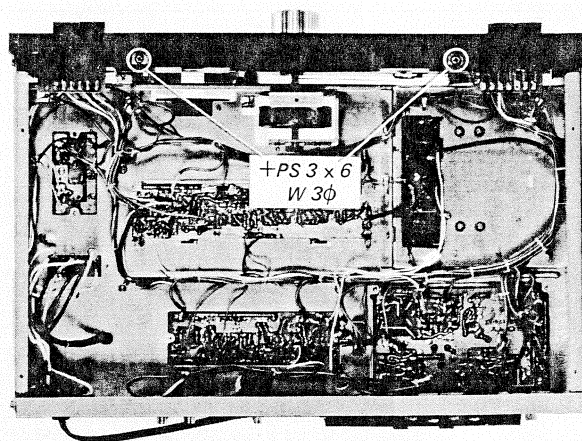

Fig. 2-4 Front panel removal (2)
4. Turn the tuner over and remove the two screws (+PS 3 X 6) at the front bottom edge of the chassis as shown in Fig. 2-4.